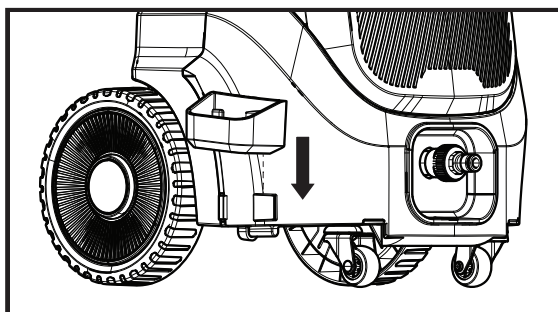

Fig. 1b
2. Press down to align with the U-shaped groove at the bottom of the housing. (Fig. 1b)